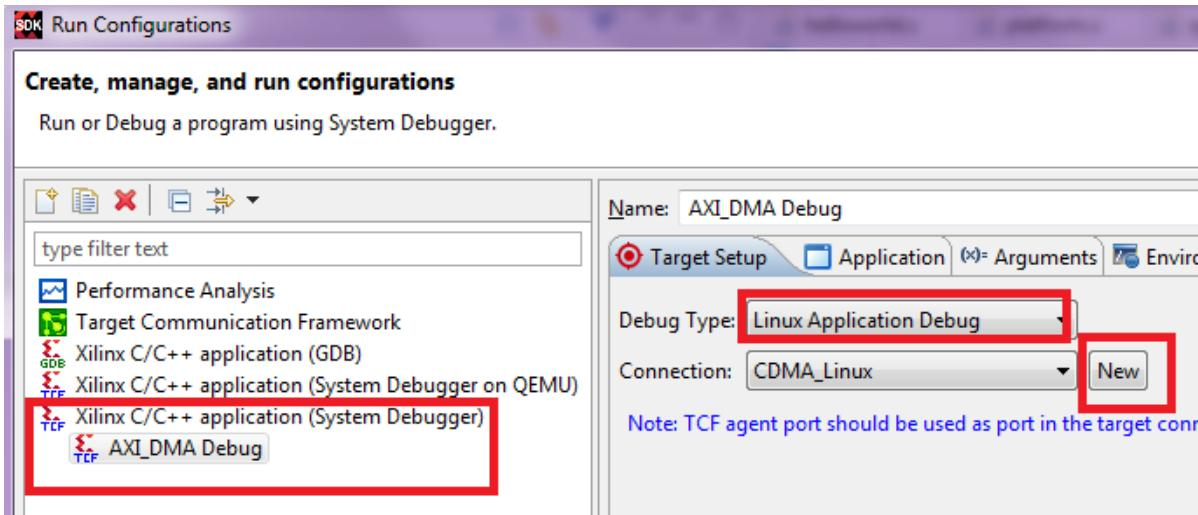

Figure 5-10: Run Configurations Setup
8. Right-click `linux_cdma_app` and select **Run As > Run Configurations** to open the Run Configurations wizard, shown in Figure 5-10.